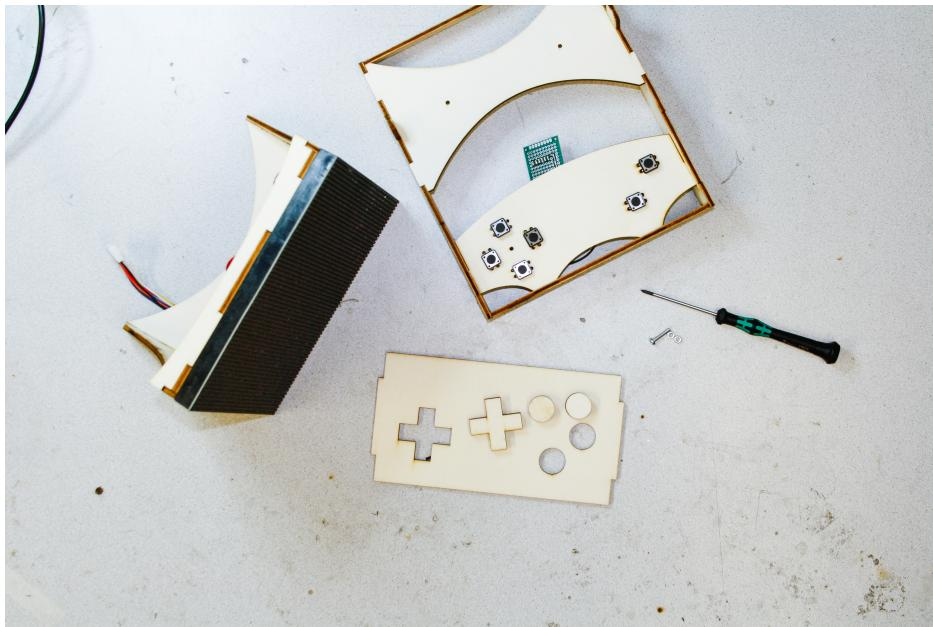

Figure 3.26: Parts needed for the last part
Step 0 For these last steps, you need the parts below. See also Figure 3.26.